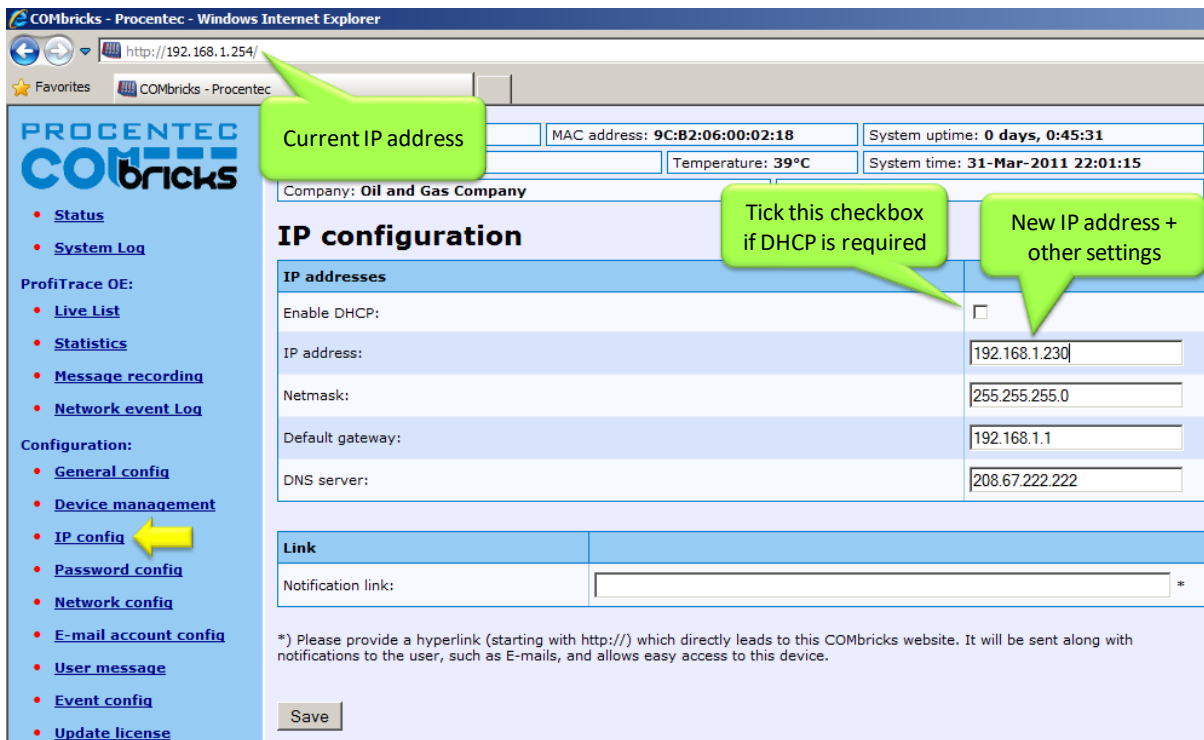

Fig. 12 - Customizing the IP address in the web server
- STEP 6:** Update the IP settings and confirm it by clicking on "Save" (see Fig. 12).